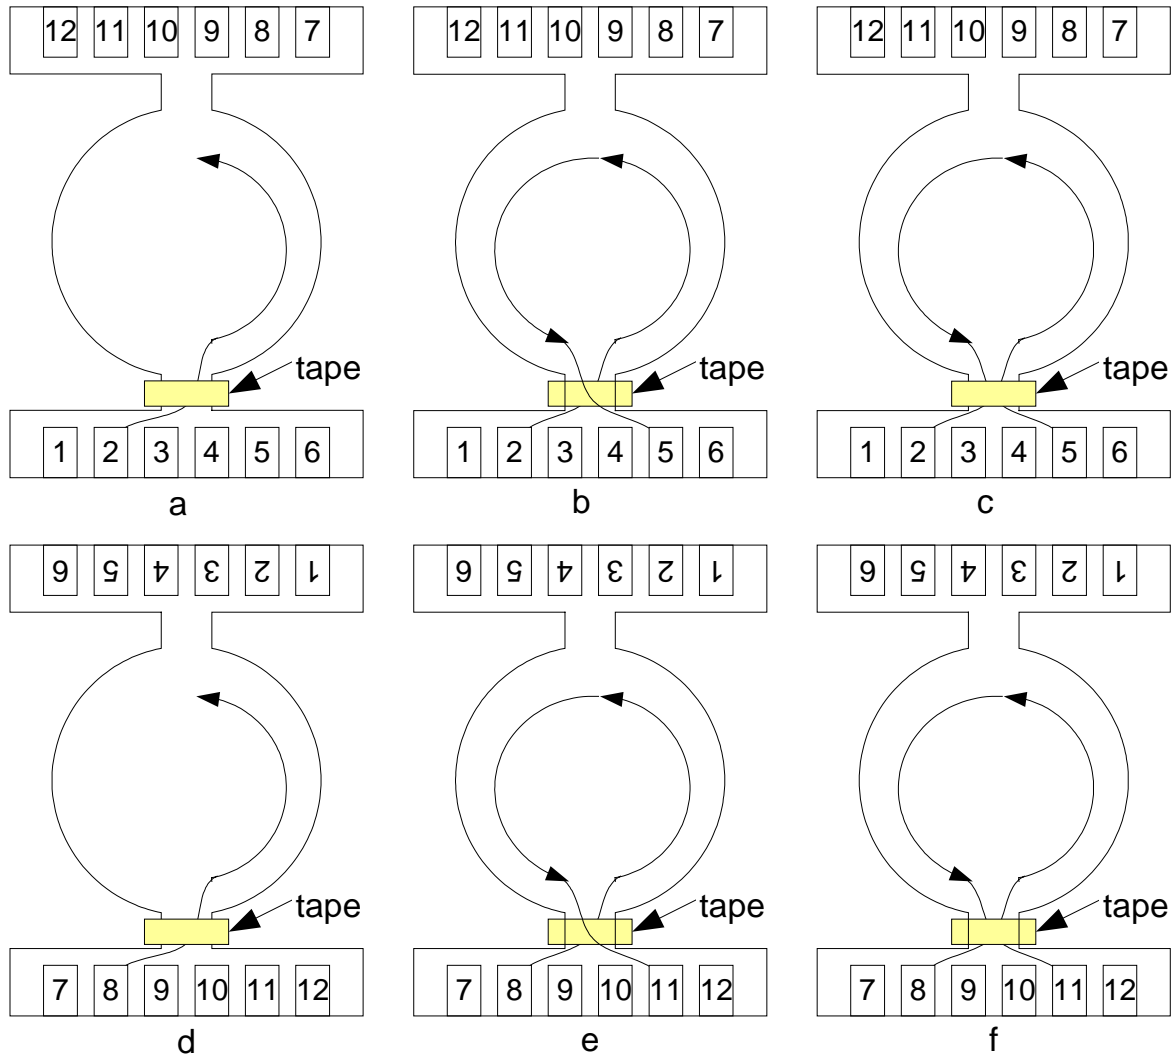

Figure 8: Winding direction and taping (viewed from the top)
The flyback inductor consists of a total of four (4) electrically isolated windings placed on a pinned 36/22 pot core bobbin as per Table 1. Pins are numbered consistent with DIP package. All windings **MUST** be wound in counter-clockwise as viewed from above starting with the dot-winding as in Figure 8.